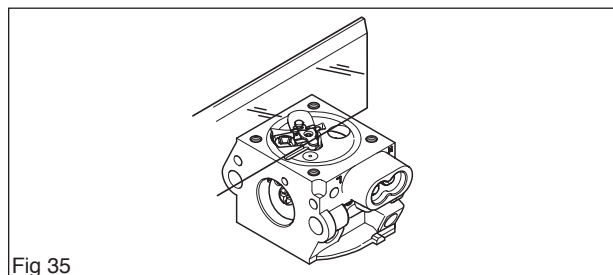

Fig 35
6. Check using a ruler or the like that the lever is level with the assembly plane on the cover. The lever arm can be bent if necessary. (see figure 35)